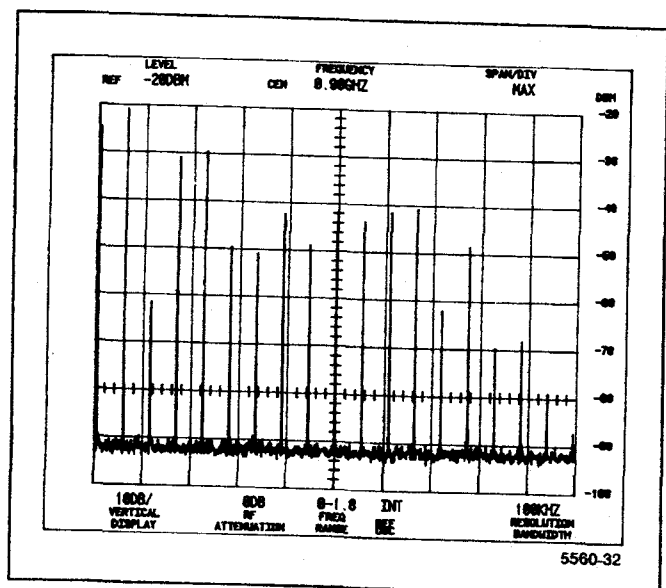

Figure 4-2. Typical display of calibrator signal in Max Span/Div.
h. Harmonics of the 100 MHz calibrator signal will be displayed as shown in Figure 4-2. To select 100 MHz center frequency, press the pushbutton sequence of <Blue-SHIFT> FREQ 100 MHz.